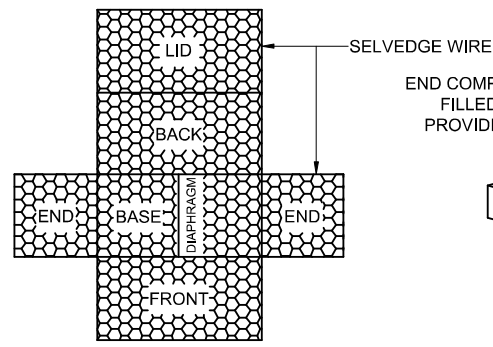

FIGURE 1
1. UNFOLD EACH GABION ON A HARD FLAT SURFACE. STRETCH IT OUT AND STAMP OUT ANY KINKS. MAKE SURE THAT ALL CREASES ARE IN THE CORRECT POSITIONS FOR FORMING THE BOX - ONE AT THE EDGE OF EACH PANEL AND EACH DIAPHRAGM (FIGURE 1).